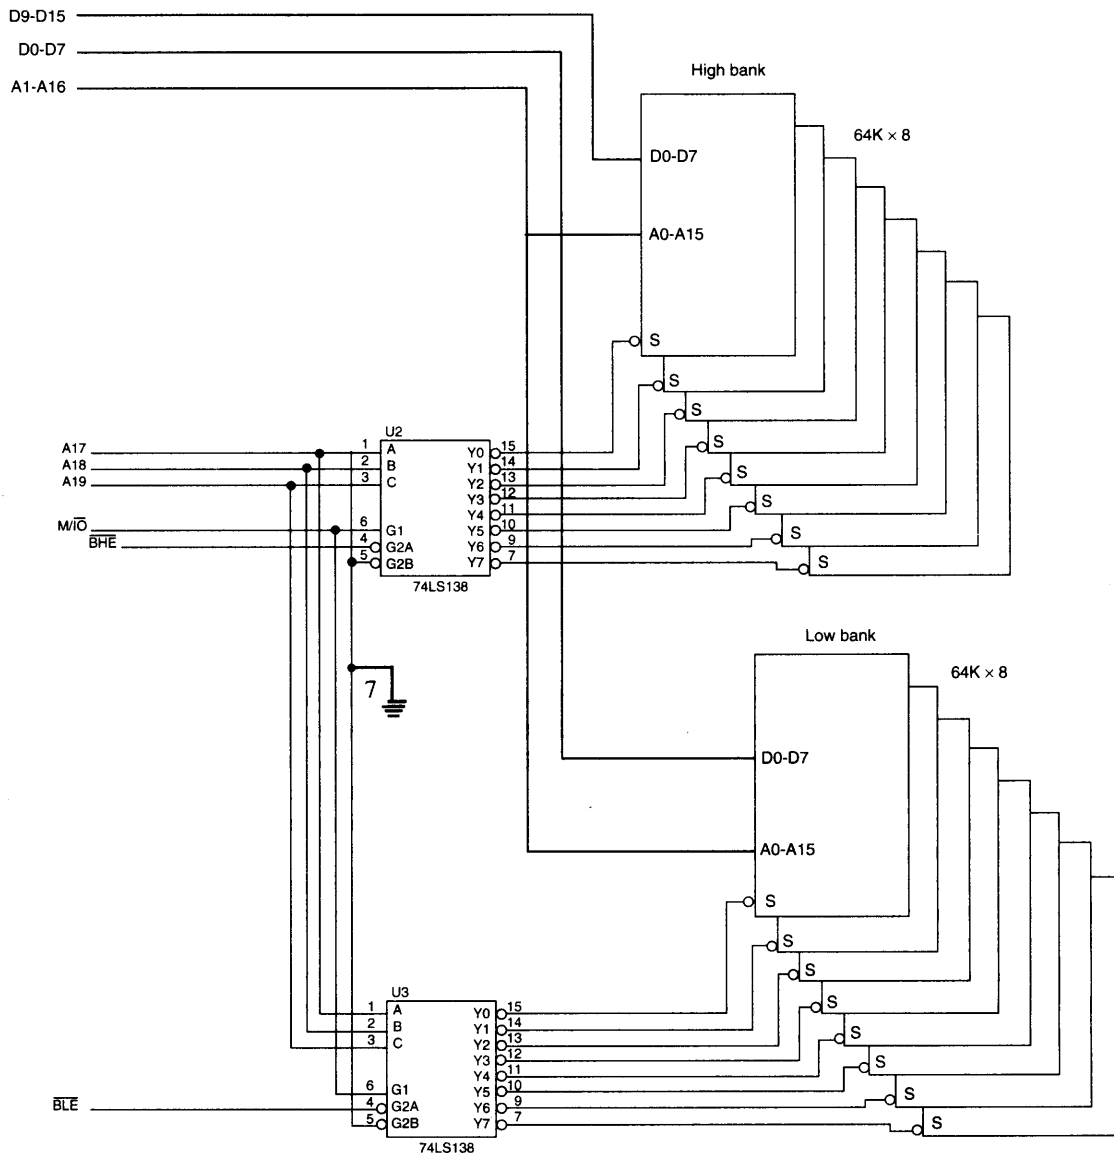

FIGURE 9-19 Separate bank decoders.
Figure 9-19 illustrates two 74LS138 decoders used to select 64K RAM memory components. Here, decoder U2 has the BLE pin (A_0) attached to G2A, and decoder U3 has the BHE signal attached to its G2A input. Because
Notice in Figure 9-19 that the A0 address pin does not connect to the memory as it is connected to U3 as BLE. Also notice that address bus bit position A1 is connected to memory address input A0, A2 is connected to A1, and so forth. The reason is that A0 from the 8086 (or BLE from the 80286/80386SX) is already connected to decoder U3 and does not need to be connected again to the memory. If A0 or BLE is attached to the A0 address pin of memory, every other memory location in each bank of memory would be used. This means that half of the memory is wasted if A0 or BLE is connected to A0.
21. Modify the circuit of Figure 9-19 by rewriting the PAL program to address memory at locations 40000H–4FFFFH.
22. Modify the circuit of Figure 9-19 by rewriting the PAL program to address memory at locations B0000H–BFFFFH.